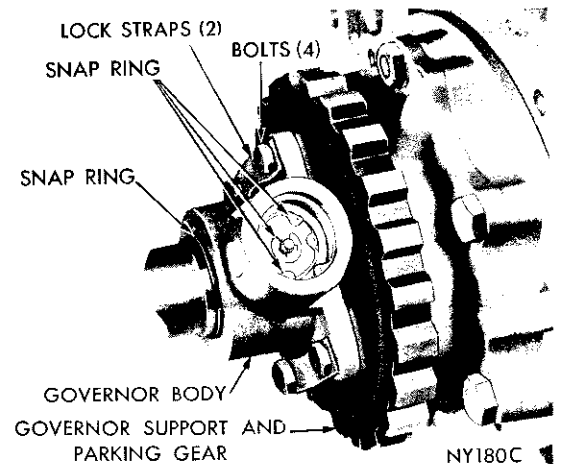
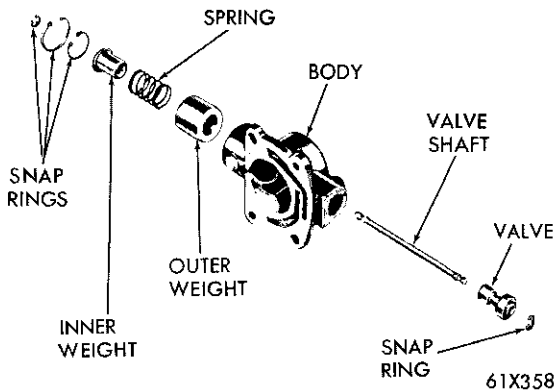

Fig. 42—Governor Shaft and Weight Snap Rings
Fig. 43—Governor Assembly (Disassembled)
- (1) Remove the extension housing. Refer to Page 58 or 60.
- (2) Using a screw driver, carefully pry the snap ring from the weight end of governor valve shaft (Fig. 42). Slide the valve and shaft assembly out of the governor body.
- (3) Remove the large snap ring from the weight end of the governor body, lift out the governor weight assembly.
- (4) Remove the snap ring from inside the governor weight, remove the inner weight and spring from the outer weight. Figure 43 shows a disassembled view of the governor assembly.
- (5) Remove the snap ring from behind the governor body, then slide the body and support assembly off the output shaft. If necessary remove four bolts and separate the governor from the support.
valve shaft hole in the governor body aligns with the hole in the output shaft, then slide the assembly into place. Install snap ring behind the governor body (Fig. 42). Tighten body to support bolts to 100 inch pounds torque. Bend ends of lock straps over the bolt heads.